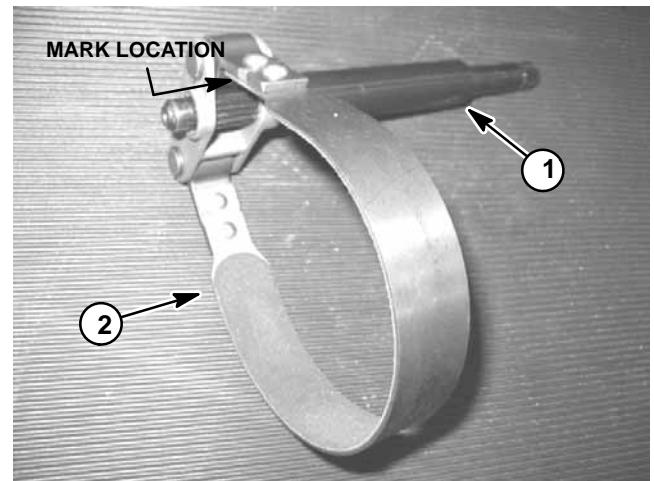

Figure 28
8. If traction band is replaced, the new band will have an ink mark on the upper end of the band (Fig. 28).